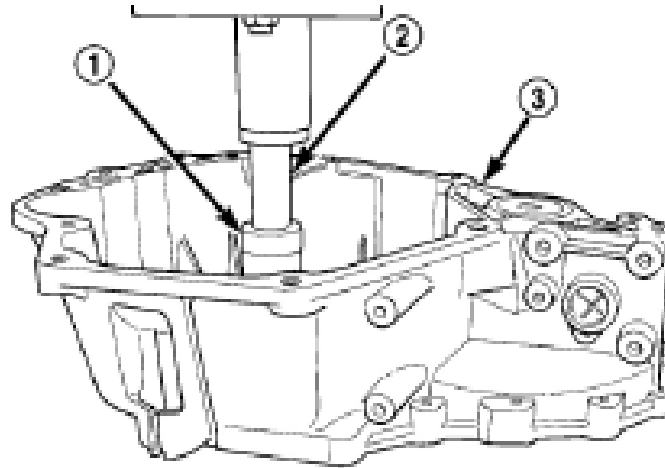

Figure 3-120 Input bearing instrument
- (1) Apply a layer of Loctite® sealant on the outer diameter of bearing place bushing and shaft assembly into the input bearing hole.
- (2) Cover the input bearing with tool C-4680-1 (Figure 3-120).